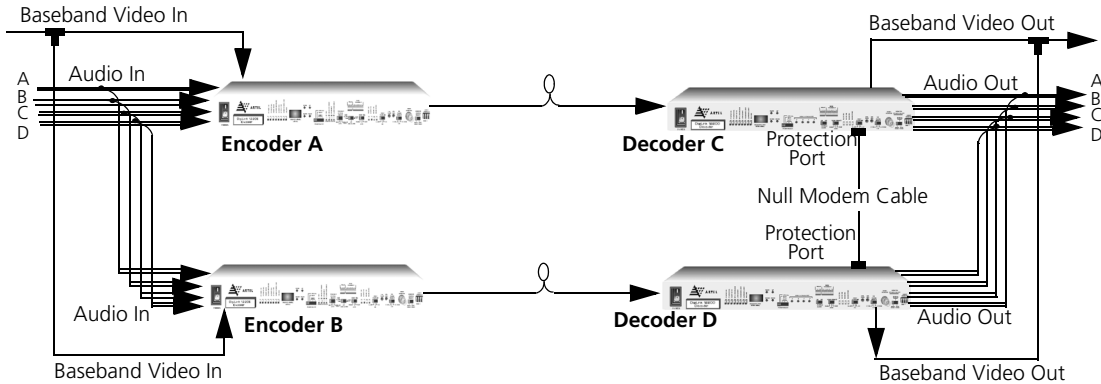

Figure 5-8. An Analog Mode Protection Switching Set-up
5. Enable only one set of decoder outputs—those belonging to the master decoder (decoder C in Figure 5-8 on page 5-10). Disable the outputs of the slave decoder (decoder D in Figure 5-8 on page 5-10).
Figure 5-8 shows the final set-up.